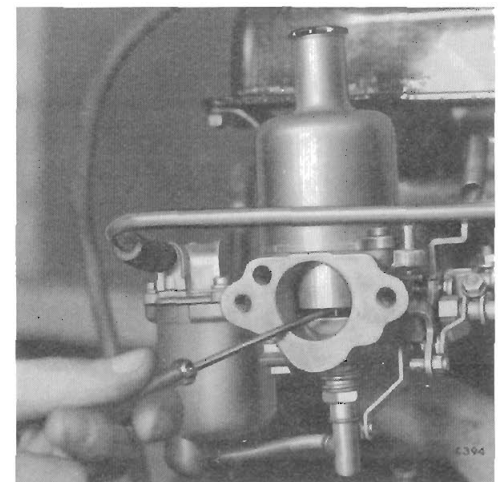

**Fig. 11.**
**Replenishing Dampers (Fig. 11)**